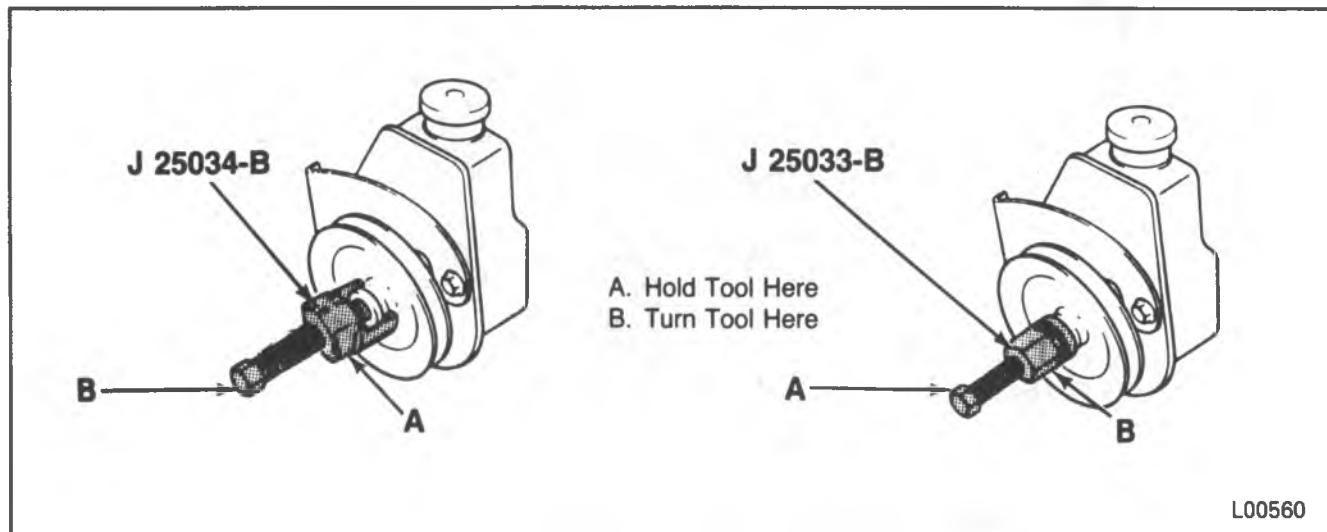

Figure 32 — Installing and Removing Pulley
- Hold the pilot bolt and turn the nut counterclockwise (figure 32).
- Hold the pilot bolt and turn the nut clockwise (figure 32).